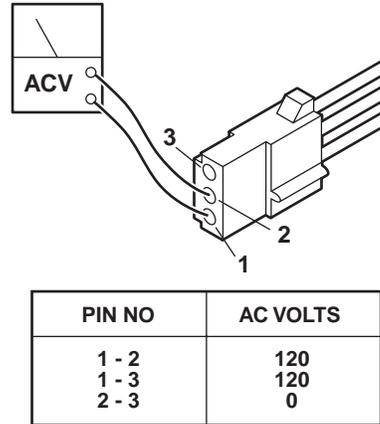

Figure 5-11. Connector CN15
3. Use a voltmeter capable of measuring 120 VAC and measure the following connector pins in connector CN15. See figure 5-11.
3. Use the R x 100 scale of the ohmmeter and touch pins 2 and 3 of connector CN15. See figure 5-11.